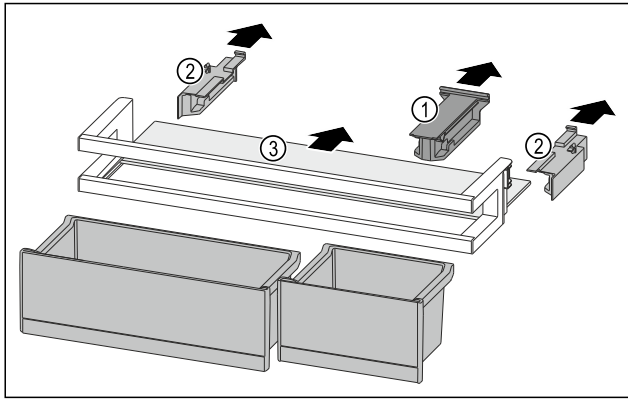

Fig. 238
- ▶ Pull off the holding part Fig. 238 (1).
- ▶ Pull off the side parts Fig. 238 (2).
- ▶ Remove the shelf Fig. 238 (3).